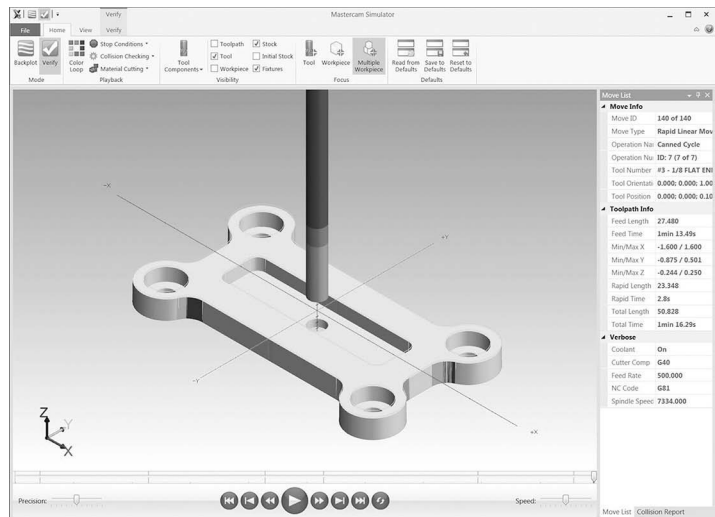

Figure 5-54 Verify Display
7. Select all Operations, press the Verify icon, and press play (Figure 5-54). Adjust, if necessary, and re-verify. Confirm the result is what was expected and continue.